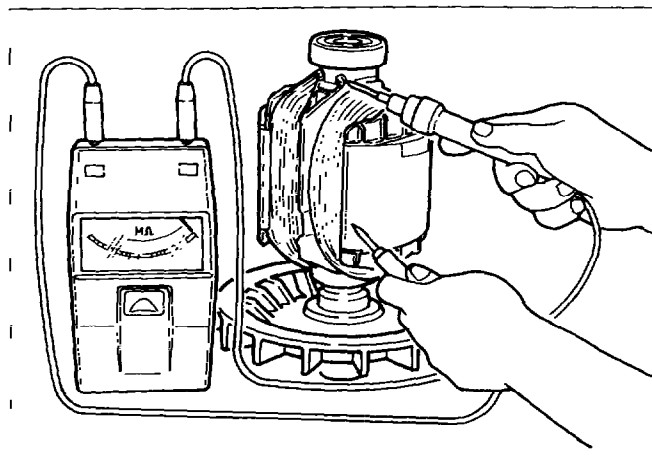

Fig. 11-6
- Measure the insulation across one of the soldered terminals of the rotor and the core. (Fig.11-6)